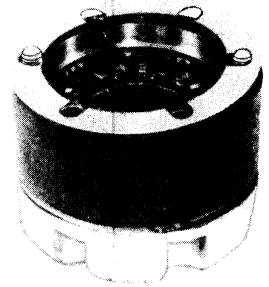

FIG. 22 Assembly Positions of Gear Hub Housing and Gaskets
9. Install a new outer retainer gasket. Assemble gear hub housing by aligning the splines of the housing with those of the outer clutch gear as shown. Assemble a new inner (metal) gasket on hub housing (Fig. 22).